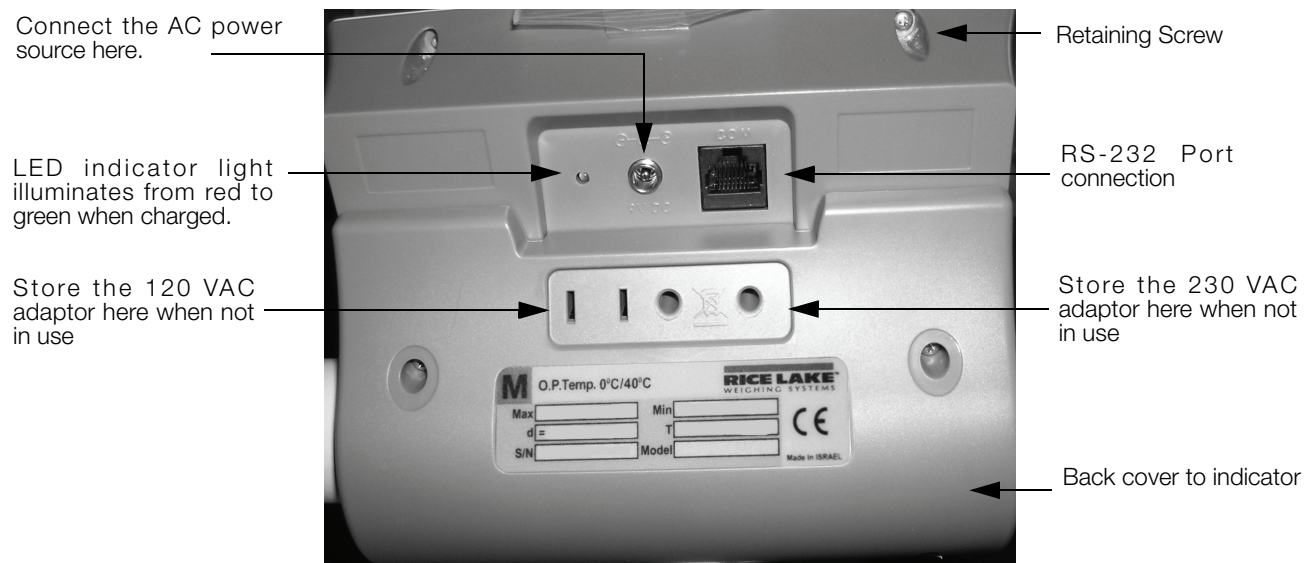

Figure 2-2. LED Light Location
The Digital Bariatric Handrail Scale has a 120 VAC adaptor or 230 VAC adaptor to use when power is readily available. The AC power adaptor plugs into the back of the indicator as shown in Figure 2-2.
The AC adaptor, when not in use, plugs into the back housing of the indicator. Figure 2-2 shows that location.
1. Unscrew the four back cover screws, remove the back cover and place screws in a secure place along with the back cover. The screw location is shown in Figure 2-2.